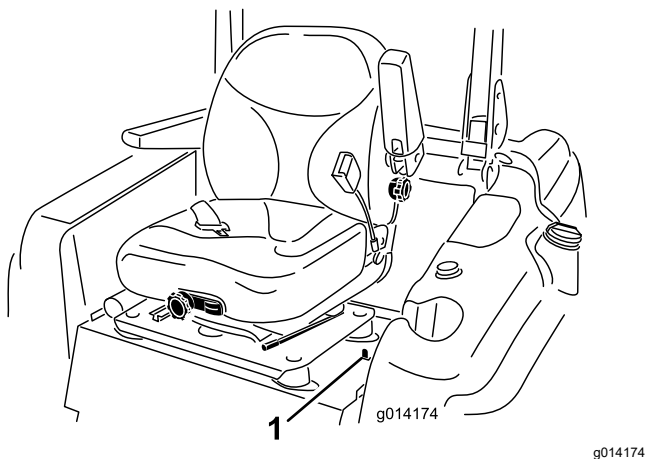

Figure 19
1. Move the seat latch, located on the left side of the seat, rearward to unlatch the seat and pull forward on the top of the seat (Figure 19).